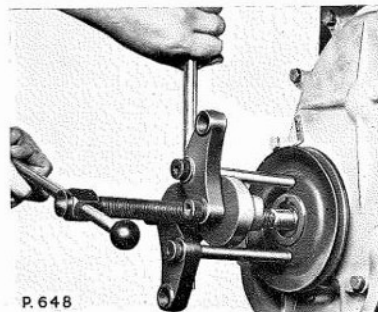

Fig. B.23. Withdrawing the crankshaft pulley, using Churchill Tool 55 and the adaptor set R.G.55-4
5. Withdraw the crankshaft pulley using normal hand pressure only, or if a heavy interference fit is encountered, the use of Churchill Main Tool 55 and the Adaptor Set R.G.55-4 is recommended (see Fig. B.23).